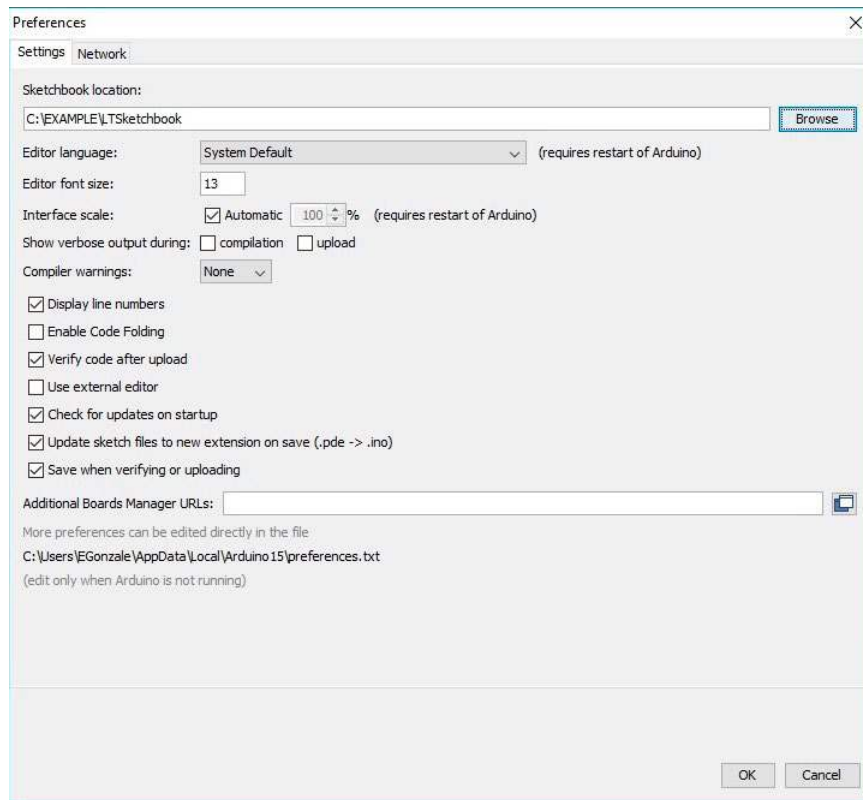

Figure 4. Sketchbook Location Path
2. Set the Arduino IDE to open BMS Sketchbooks. From within the Arduino IDE, click on **File** menu select **Preferences**. Then under **Sketchbook location:** select **Browse** and locate the path to the extracted **LTSketchbook.zip** file that was downloaded (see Figure 4).